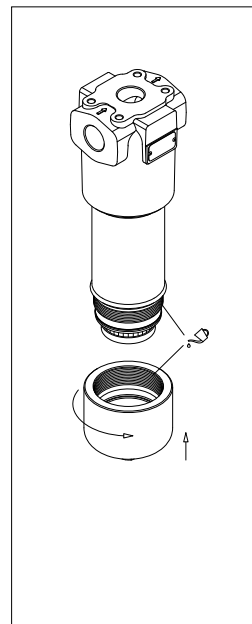

fig. 12
- (Fig. 12) Lubricate the thread and the O-ring of the bowl, then screw the bowl cover in referring to the tightening torque table in paragraph 3